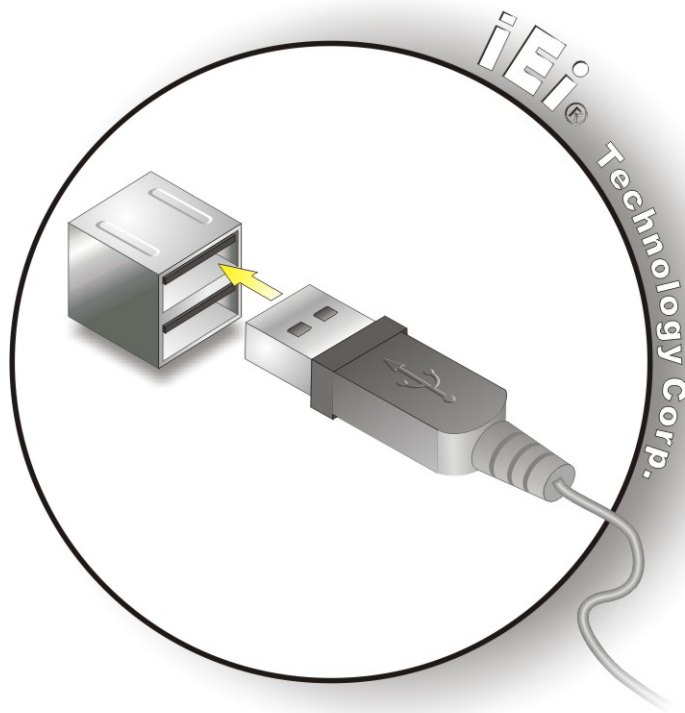

Figure 4-15: USB Connector
Step 2: Insert a USB Series "A" plug. Insert the USB Series "A" plug of a device into the USB Series "A" receptacle on the external peripheral interface. See **Figure 4-15**.